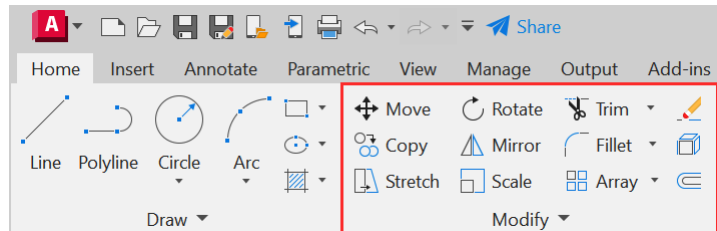

Figure 6.16: The Modify panel on the Home tab of the ribbon
2. Make sure you are on the **Home** tab on the ribbon and that the **Modify** panel is displayed, as shown in *Figure 6.16*.